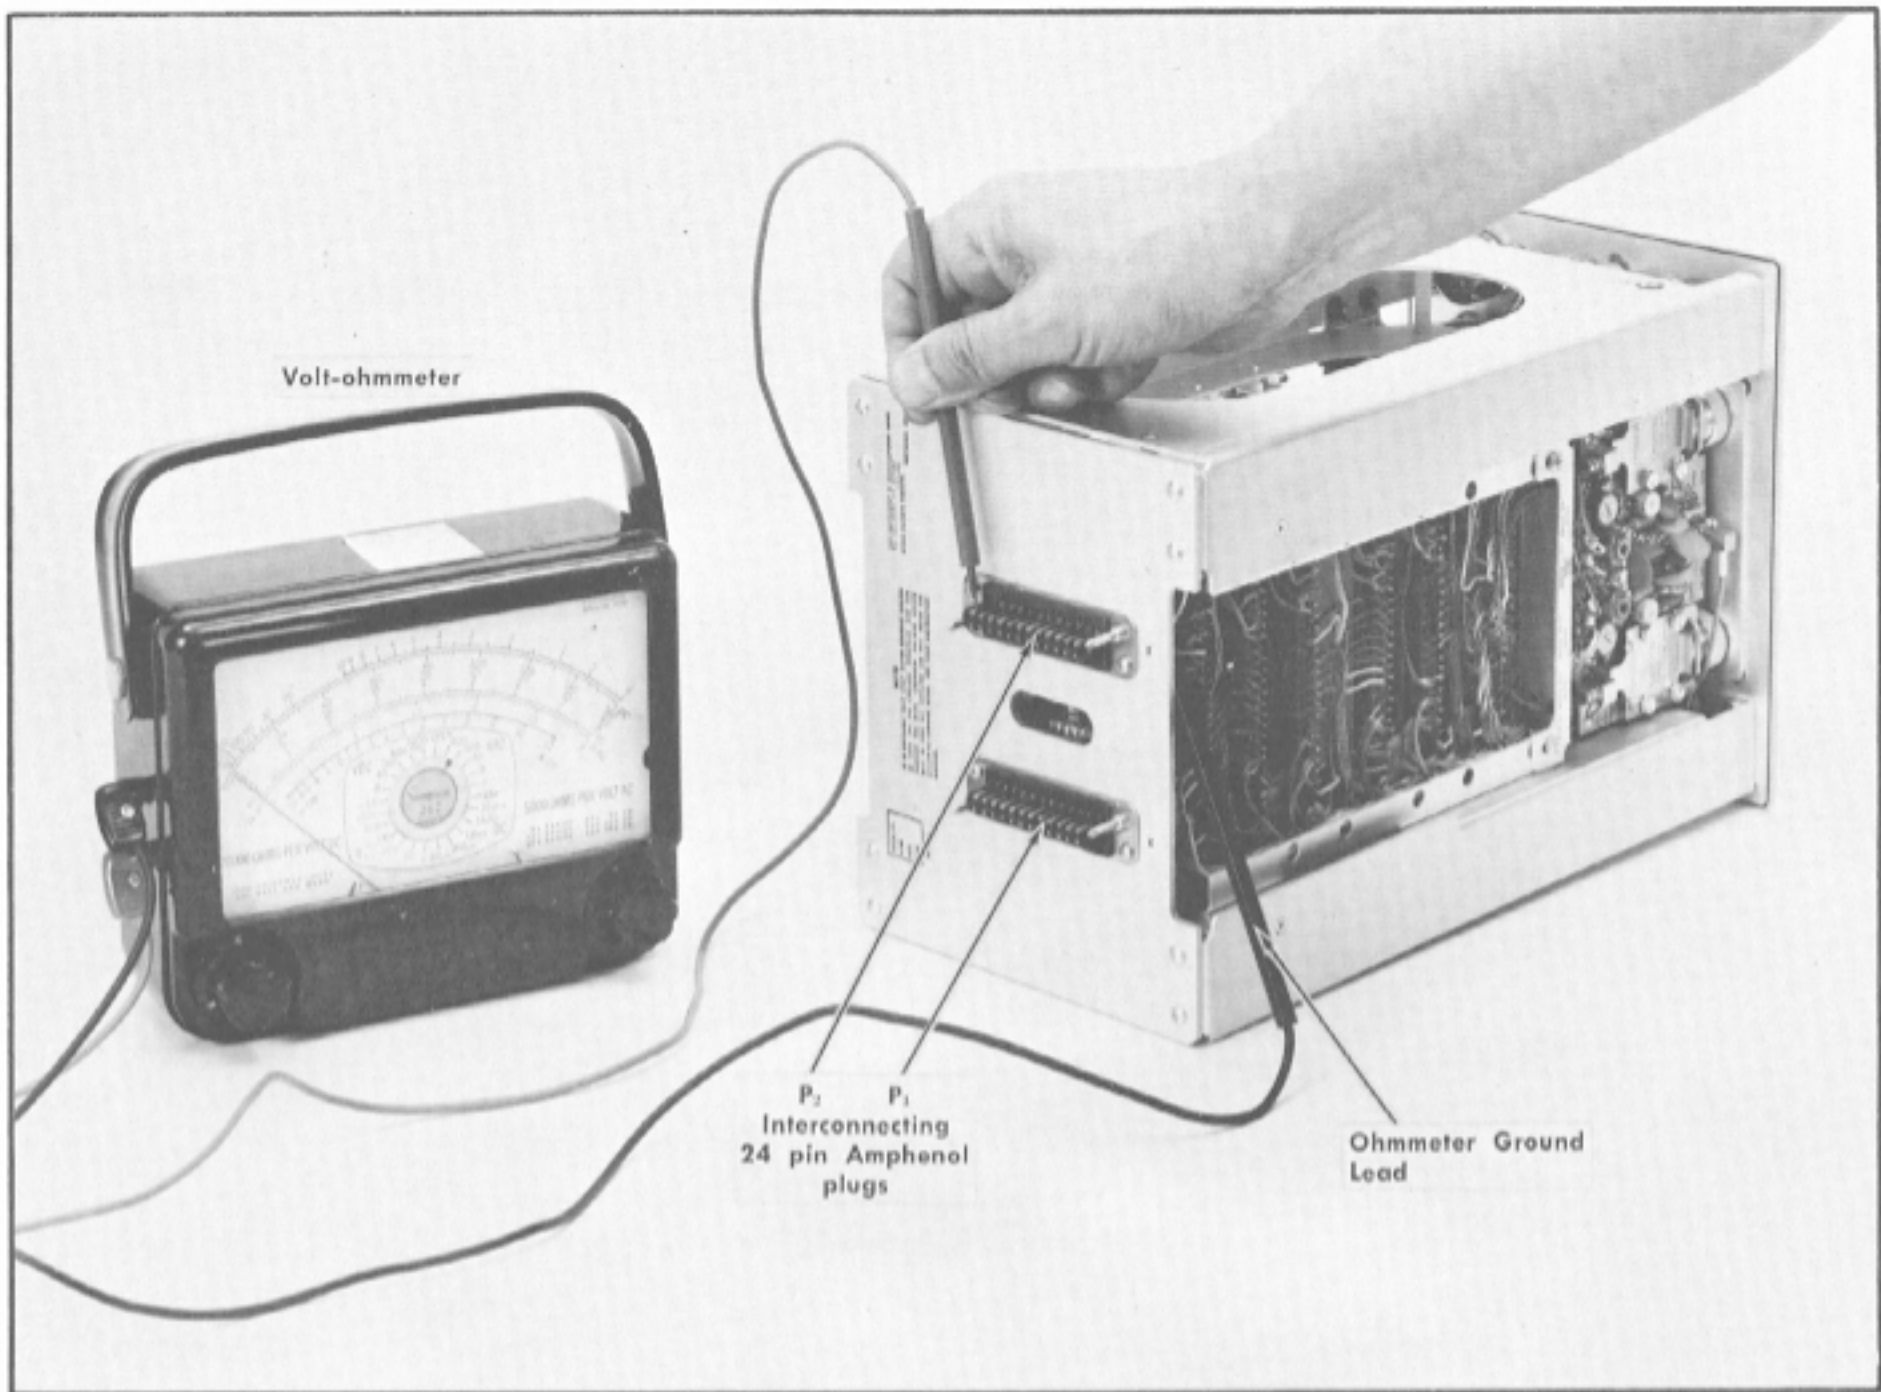

Fig. 6-3. Test equipment setup for step 2 of Preliminary Procedure.
2. Check resistance to ground at each of the 24 pins on the Power Plug, P1. The location of P1 and the equipment setup are shown in Fig. 6-3. Table 6-1 shows pin number, circuit function, ohmmeter range and the approximate resistance that should be measured.